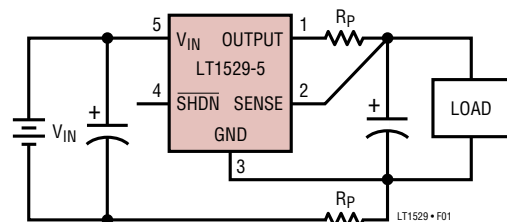

Figure 1. Kelvin Sense Connection
**SENSE (Pin 2):** SENSE Pin. For fixed voltage versions of the LT1529 (LT1529-3.3, LT1529-5) the SENSE pin is the input to the error amplifier. Optimum regulation will be obtained at the point where the SENSE pin is connected to the output pin. For most applications the SENSE pin is connected directly to the OUTPUT pin at the regulator. In critical applications small voltage drops caused by the resistance ( $R_P$ ) of PC traces between the regulator and the load, which would normally degrade regulation, may be eliminated by connecting the SENSE pin to the OUTPUT pin at the load as shown in Figure 1 (Kelvin Sense Connection). Note that the voltage drop across the external PC traces will add to the dropout voltage of the regulator. The SENSE pin bias current is 15µA at the nominal regulated output voltage. This pin is internally clamped to  $-0.6V$  (one  $V_{BE}$ ).